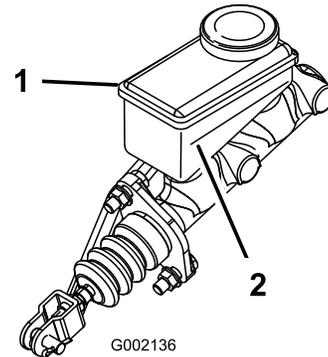

Figure 58
5. Look at the outline of the fluid level at the side of the reservoir (Figure 58).
- B. Add DOT 3 brake fluid to the reservoir until the fluid level is above the Minimum line (Figure 58).